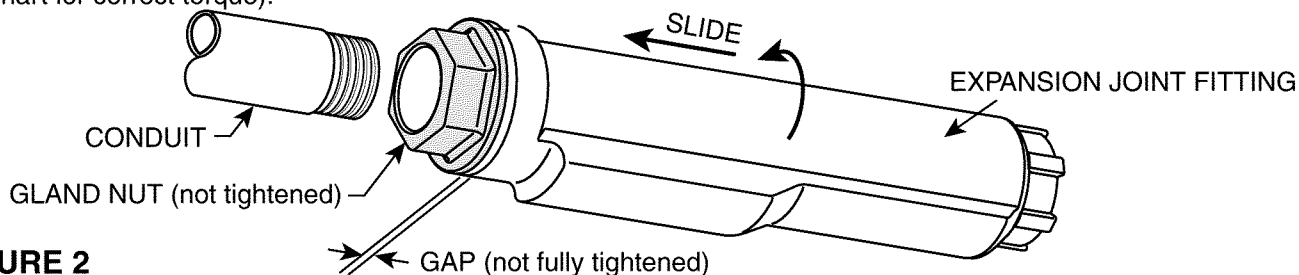

FIGURE 2
- 1) No disassembly required. The gland nut comes from the factory partially tightened to allow easy insertion of conduit. Slide the fitting, gland nut end first, onto the conduit as shown in Figure 2, until it stops at the internal bushing. Hand tighten the expansion joint fitting on the conduit. Finish tightening with a pipe wrench (see Torque Chart for correct torque).